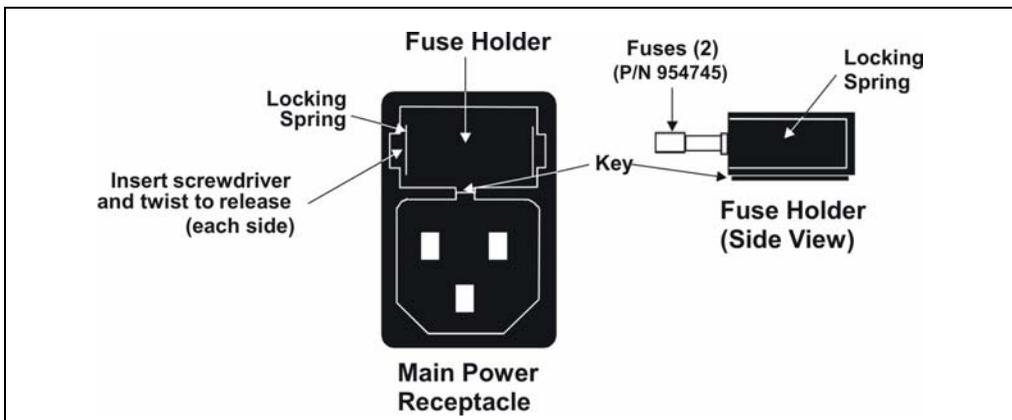

Figure 5-10. Main Power Fuse Holder
2. The fuse holder is part of the main power receptacle on the ICS-90 rear panel. Note the recessed lock located on each side of the fuse holder (see Figure 5-10).